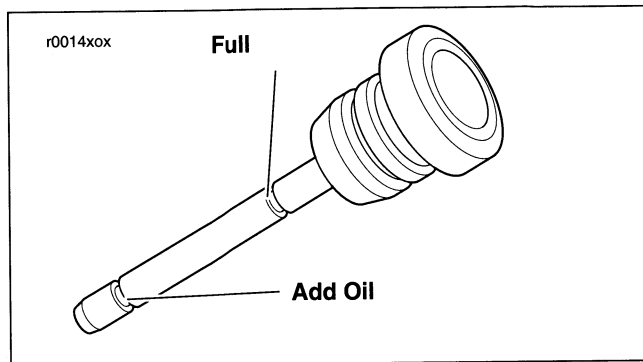

Figure 20. Engine Oil Level
1. See Figure 20. Remove dipstick and note oil level.
9. See Figure 20. See Table 4. Refill with fresh oil.